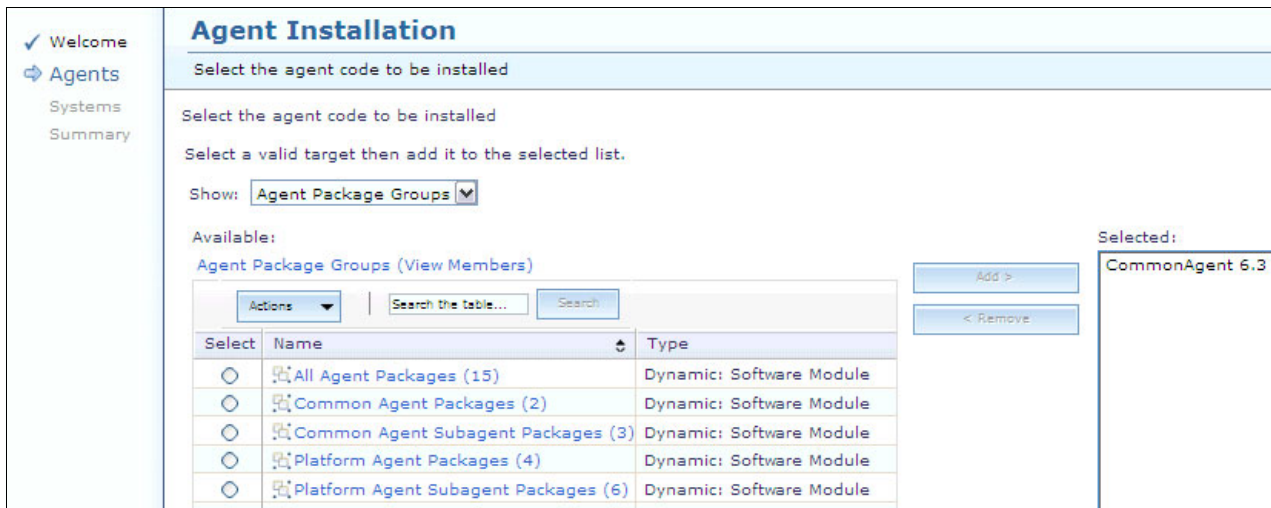

Figure 12-10 Agent Installation: Package selection
- You can see a list of agents. Click **Next** because the Common Agent for Windows is already in the selected list (Figure 12-10). Otherwise, add the Common Agent for Windows from the Common Agent Packages by clicking **Common Agent Packages**.